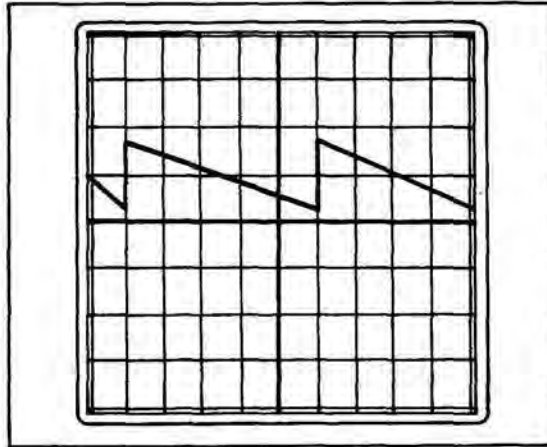

Figure 7-26 Ramp-Down Display of Sawtooth Waveform
17. Set Signal Generator frequency to 145.1 MHz. Verify Oscilloscope displays a low frequency inverted sawtooth waveform with amplitude of approximately +9 V. See Figure 7-26.